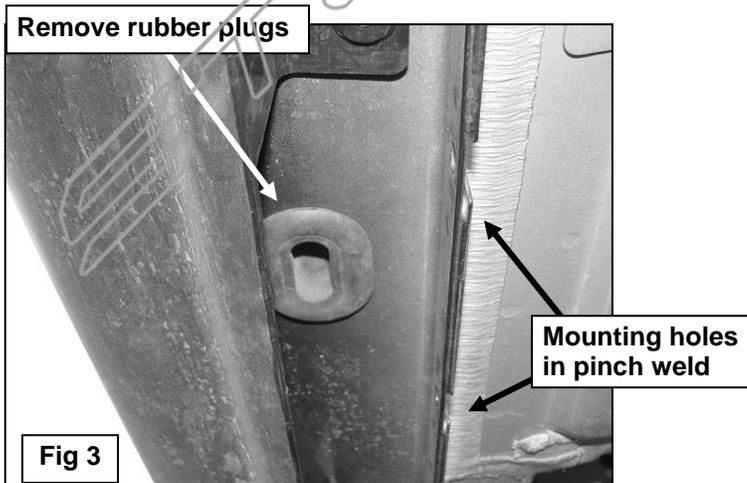

Fig 3
- Starting at the driver side, locate the (3) pairs of factory holes in the pinch weld, **(Figure 1 & 2)**. Move toward the front pair. Remove the rubber plug filling the oval hole in the bottom of the rocker panel in front of the two holes, **(Figure 3)**. Select (1) 12mm Bolt Plate and (1) 12mm Plastic Retainer. Partially thread the Retainer onto the Bolt Plate. Insert the Bolt Plate into the hole and rotate it 90-degrees to go across the slot, **(Figure 4)**. Thread the Retainer all the way down the Bolt Plate and tight against the body panel, **(Figure 5)**. **NOTE:** The Plastic Retainer is designed to prevent the Bolt Plate from falling into the body cavity and to aid in installing the Bracket.